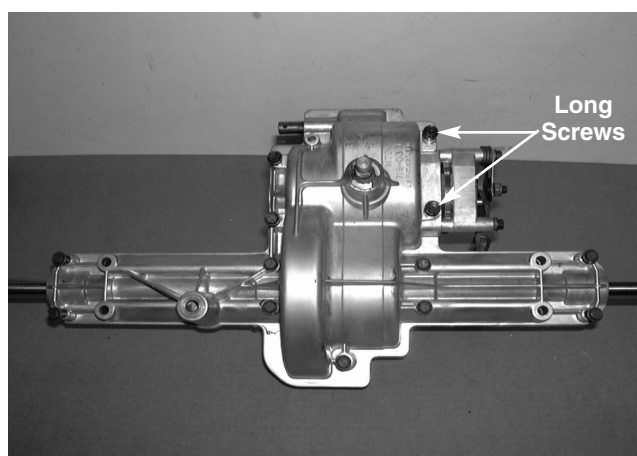

FIGURE 1.
- 3). Remove all the self tapping screws that secure the two transmission case halves together using a 3/8 socket. See figure 1.